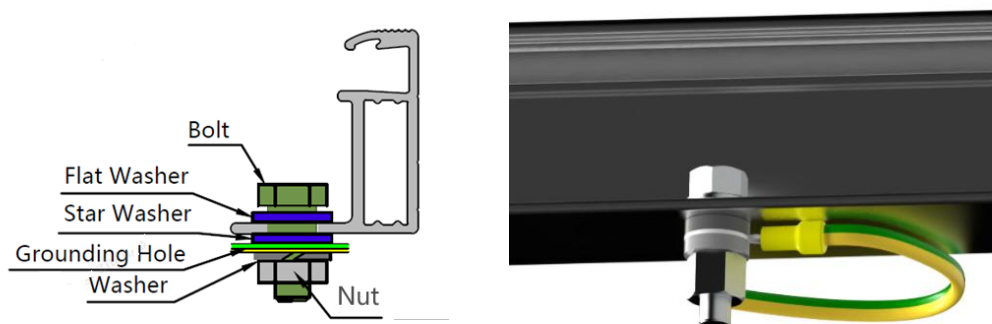

Figure 11. Grounding hole with bolts
- There are grounding holes with a diameter of 4mm on the long side of the back frame of the module, by the edge part. The grounding hole on the frame is marked with typical grounding symbol (\perp) according to IEC 61730-1:2023 standard. These holes can only be used for grounding with bolts, so cannot be used for module installation. This method includes bolt, flat washer, start washer, washer and nut (see Figure 11) . The bolts should be